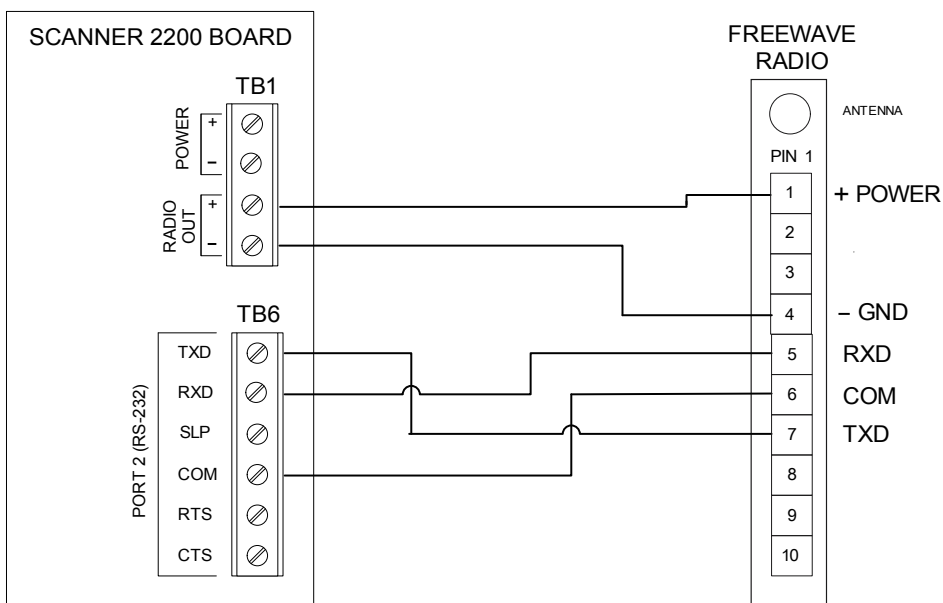

Figure B.4—Wiring connections for FreeWave radio
8. Connect the radio power cable to TB1 (Radio Out) on the CPU/display board as shown in Figure B.4.